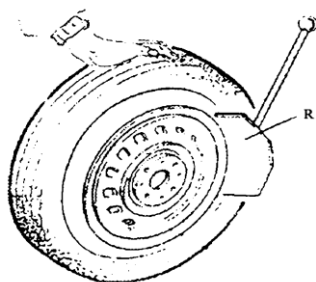

Fig 5
Ensure to exhaust the air in the tyre completely, place the tyre against the rubber buffer (S). Bring the paddle (R) against the bead about 10mm from the edge of the rim shown as **Fig 5**. Tread Bead breaker Pedal (U) to push paddle into tyre. Repeat the above operations on different positions around the tyre and both sides of tyre until tyre bead is released completely.